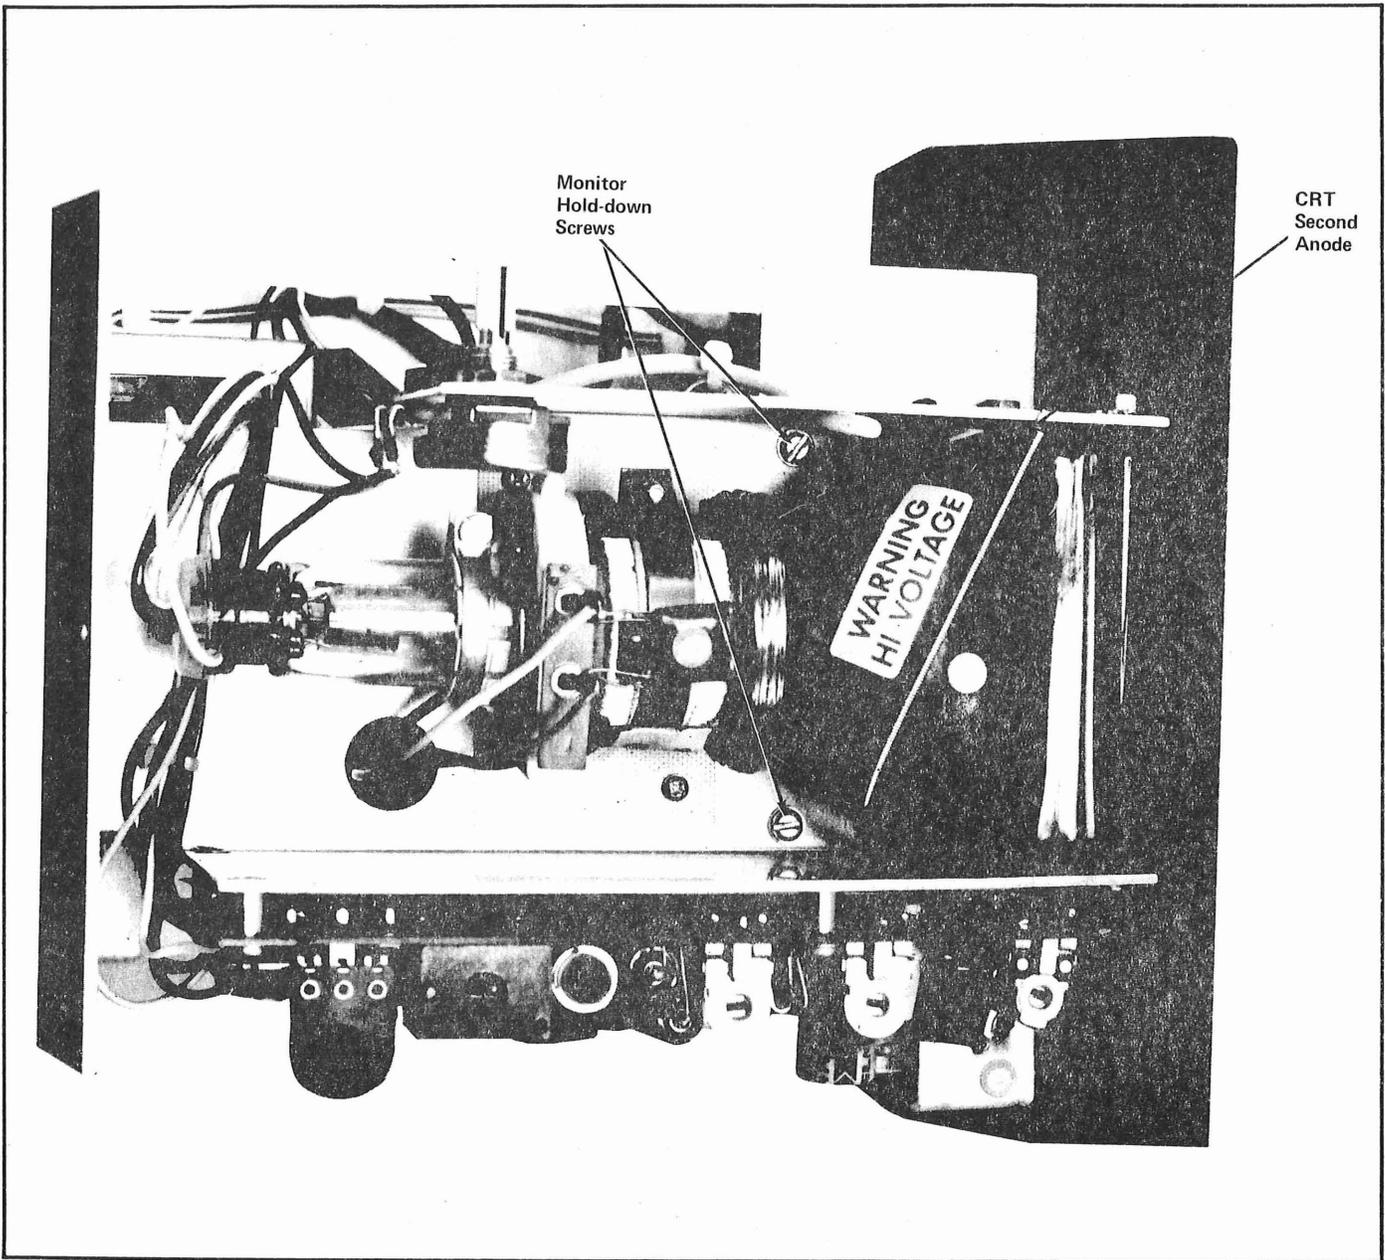

Figure 4-9. Top View of Chassis
CAUTION: Hazardous voltages may be present at or near the second anode of the cathode ray tube. (See figure 4-9.)
(See figure 4-9.)
- (f) Loosen the two monitor hold-down screws (#4-40) on each side of the CRT. (See figure 4-9.)
- (a) Place the monitor assembly over the two hold-down screws (#4-40) and slide back and tighten the screws. (See figure 4-9.)